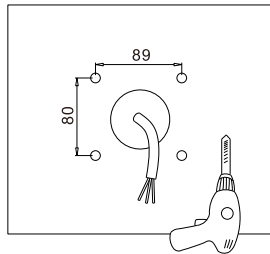

Figure 3-1
1. Cut holes on the wall according to locating plate. (Figure 3-1)